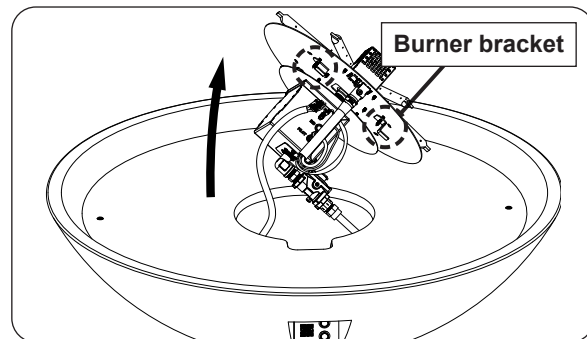

Fig. 43-1 Remove burner assy (if needed)
1. The burner will need to be removed. Remove all media. Use a  $\frac{5}{16}$ " nut driver to partially unfasten the 4 screws found on the burner assembly. Then carefully remove the burner and set it off to the side. See Fig 43-1.